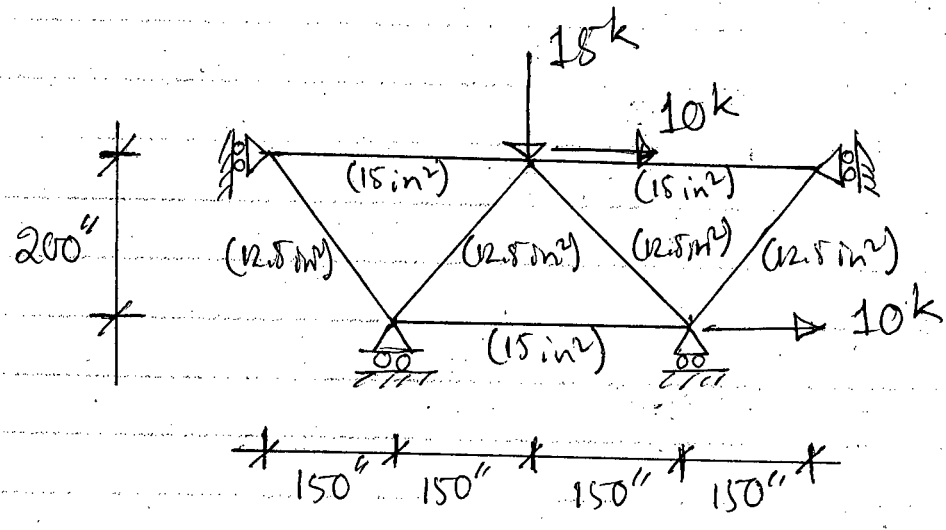

Fig. 14
8. For the truss shown in Fig. 14, write down the co-ordinate matrix, connectivity matrix, member property matrix, loaded node matrix, stiffness matrix of each member and global stiffness matrix of the truss. Consider support conditions and write down the modified stiffness equations. Given:  $E = 30,000$  ksi. Member areas are given in parenthesis.